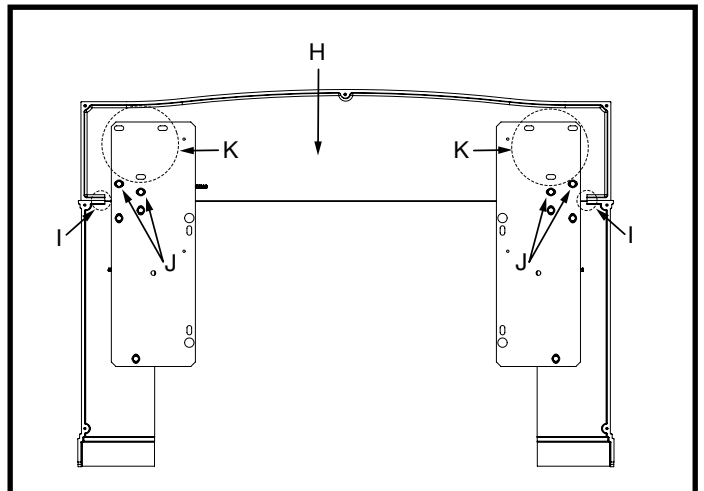

Figure 14: Securing brackets to surrounds.
5. Using a blanket or cardboard to protect the parts, lay the Surround sides flat on floor and align with Surround Top(H). Square the surround by aligning edges(I) on each side. Fasten bolts in location (J) to attach bracket to the Top Surround (Figure 14).
NOTE: If mounting an Oversized Surround (not shown), use mounting holes (K) to attach (Figure 14).